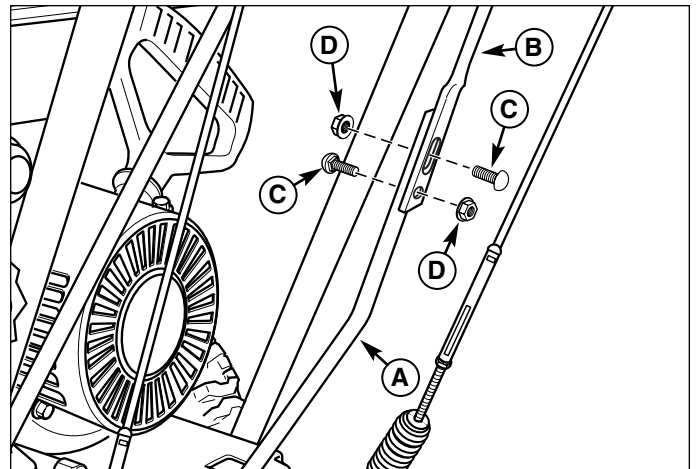

Figure 5. Connecting Shift Rods (Some Models)
On models with folding handles the shift rods need to be connected. Connect upper shift rod (B, Figure 5) and lower shift rod (A) rods as shown. Secure with carriage bolts (C) and locknuts (D).